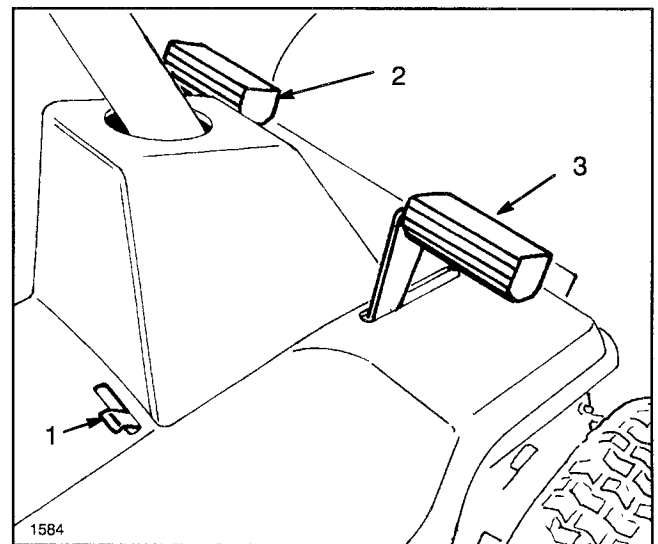

Figure 6
Clutch Pedal (Fig. 6)—Foot—operated clutch pedal is used in conjunction with gear shift. Depress clutch pedal fully when shifting gears. Depress clutch pedal whenever brake is used.
Brake Pedal (Fig. 6)—Foot—operated brake pedal must be depressed to slow down or stop the rider. When pedal is depressed, a caliper engages the brake disc on the side of the transmission. Always depress clutch pedal when using brake.
Parking Brake (Fig. 6)—Parking brake must be used in conjunction with brake pedal. When pedal is depressed and end of parking brake lever holds brake pedal in depressed position, a caliper engages the brake disc at side of transmission.
1. Engage the parking brake (Fig. 6): refer to using Parking Brake, page 17.
2. Move parking brake control to the left and release brake pedal until it contacts end of parking brake lever (Fig. 6).
3. To release the parking brake, depress brake pedal (Fig. 6), which will allow parking brake lever to return to its disengaged position. Then release brake pedal.